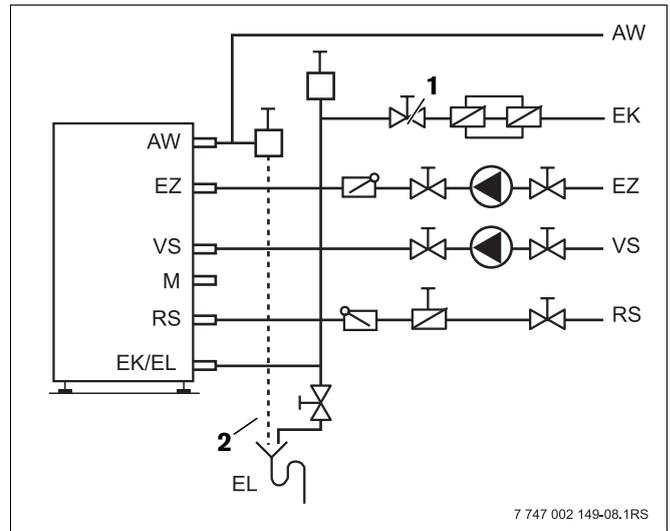

Fig. 11 Installation diagram (general layout)
- Vent the DHW tank by opening the vent/bleed valve (Fig. 11, **Item 1**) or the highest faucet of the house.
- Open the supply valve (Fig. 11, **Item 2**) to fill the DHW tank.
- Before heating up, check that the boiler, DHW tank and piping are completely filled with water. To bleed the air, open the vent/bleed valve (Fig. 11, **Item 1**).
- Always keep the blow-off line of the relief valve (Fig. 11, page 12) open.
- the relief valve blow-off line (Fig. 11, page 12) always needs to be kept clear.